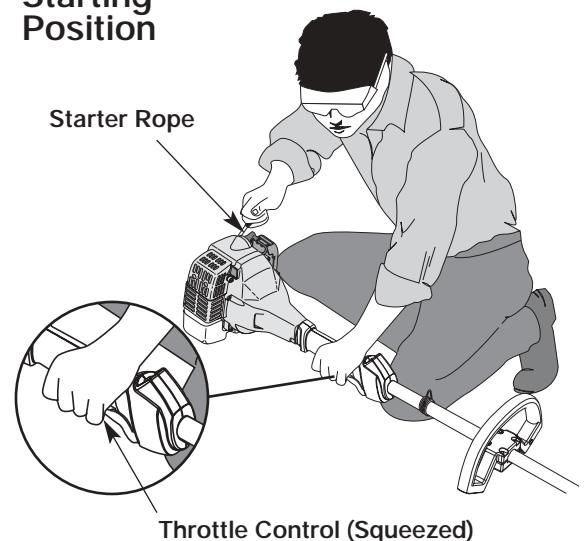

Fig. 5
WARNING: Avoid accidental starting. Make sure you are in the starting position when pulling the starter rope (Fig. 5). To avoid serious injury, the operator and unit must be in a stable position while starting.
5. Crouch in the starting position (Fig. 5) and squeeze the throttle control. Pull the starter rope briskly 4 times.